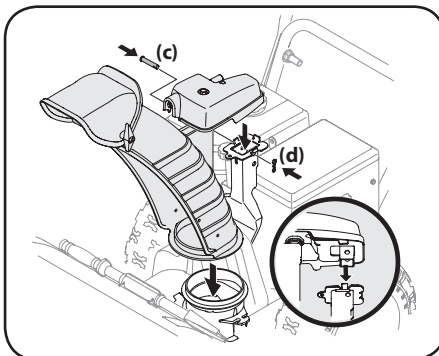

Figure 2-30
2. Place chute assembly onto chute base and secure chute control assembly to chute support bracket with clevis pin (c) and cotter pin (d) removed in Step 1. See Figure 2-30.